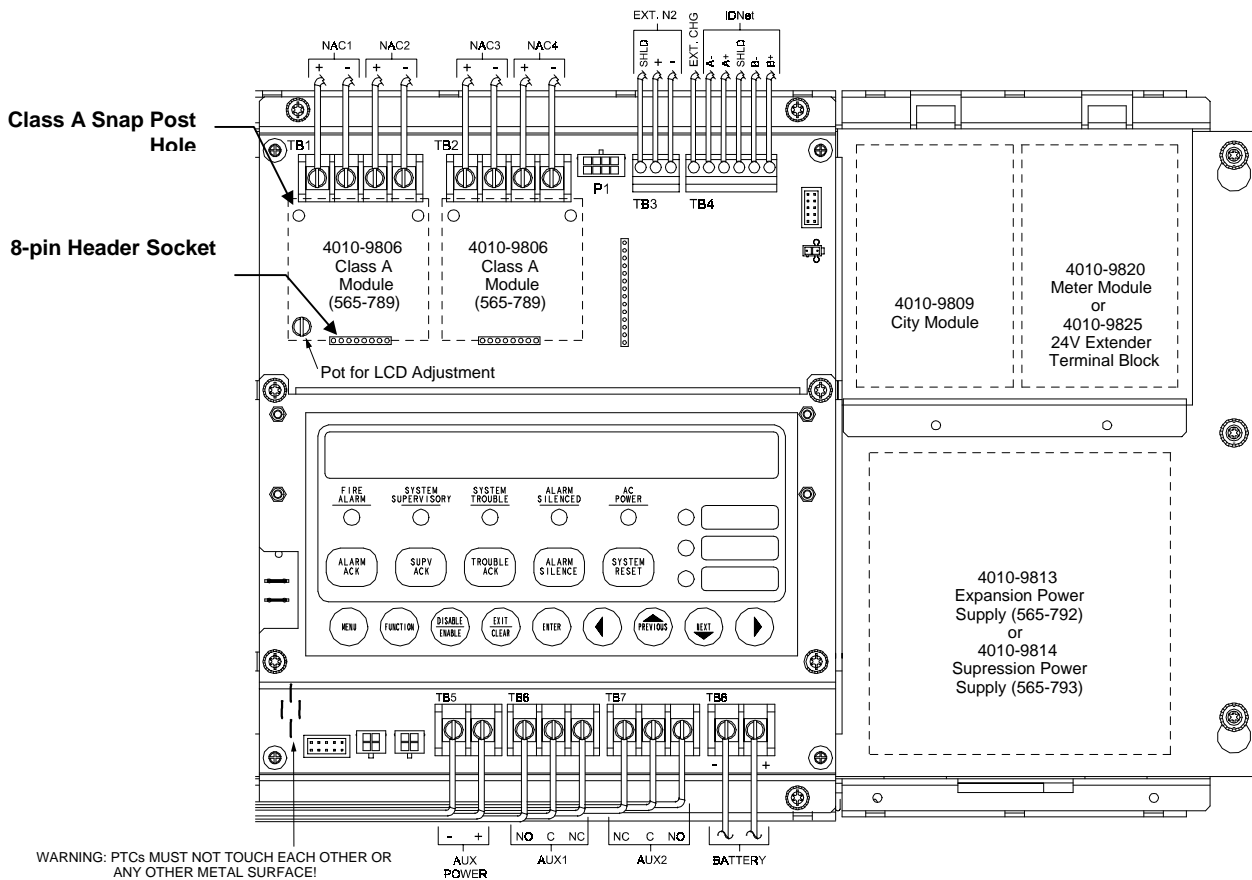

Figure 3. Class A Module Installation
Install a Class A module piggy-backed onto the 4010 SFI/O. Use the following steps and Figure 3 to mount the modules on a 4010.
3. Press two Snap Posts (Part No. 202-067) into the appropriate holes on the 4010 SFI/O (see Figure 3).